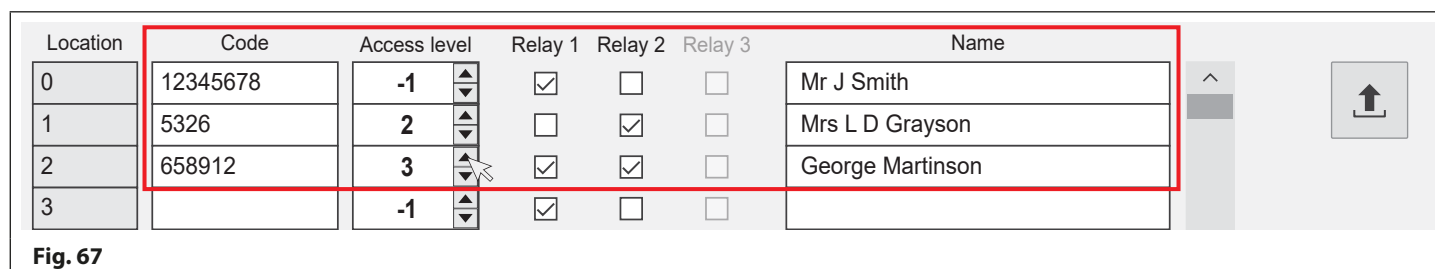

Fig. 67
- Click on the **code field** next to the location where access code is going to be stored. Enter the access code required (between 4 to 8 digits), as shown in **Fig.67**.